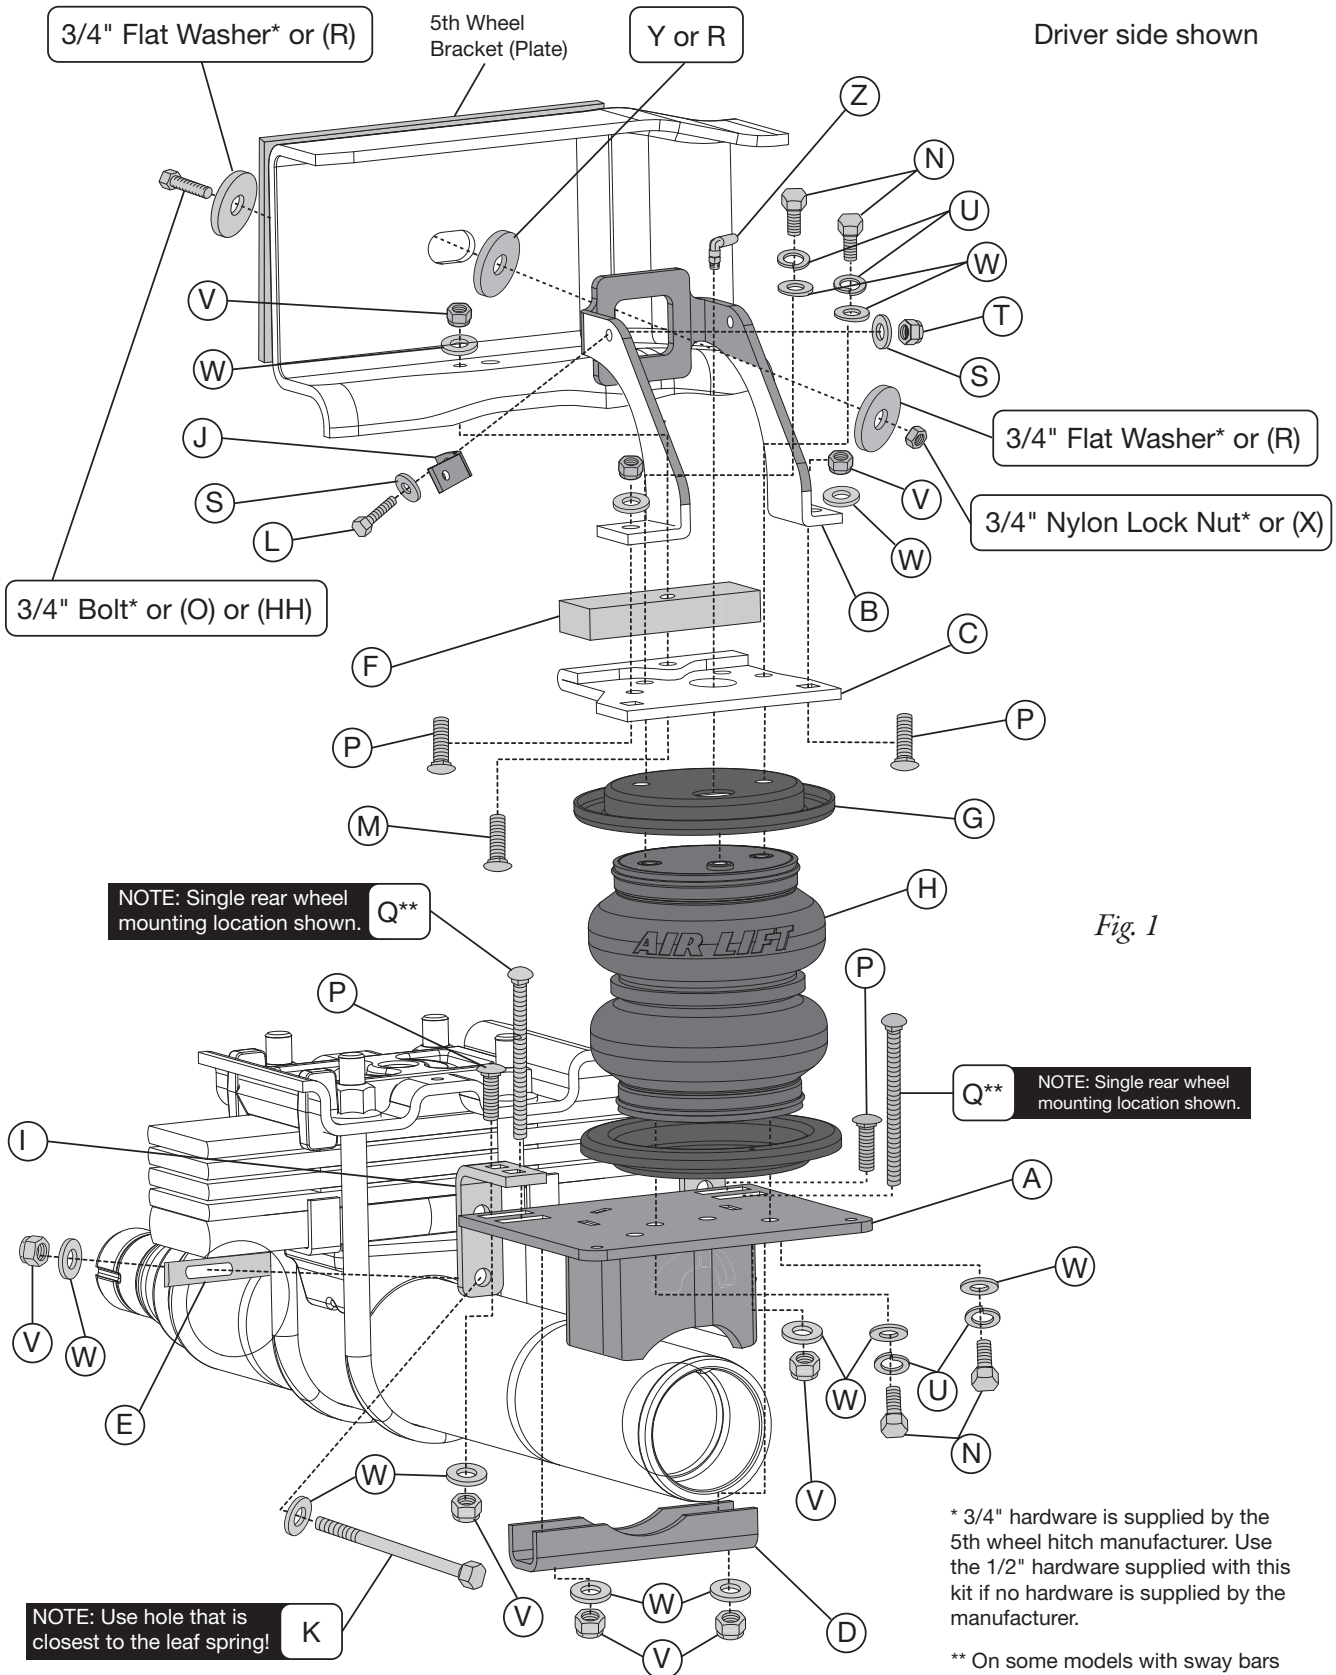

Fig. 1
* These parts are not shown in the System Overview (Fig. 1).
5. If you have a fifth wheel hitch already installed, it will be necessary to remove the 3/4" hardware that bolts the side bracket to the outside of the frame above the axle (Fig. 1).